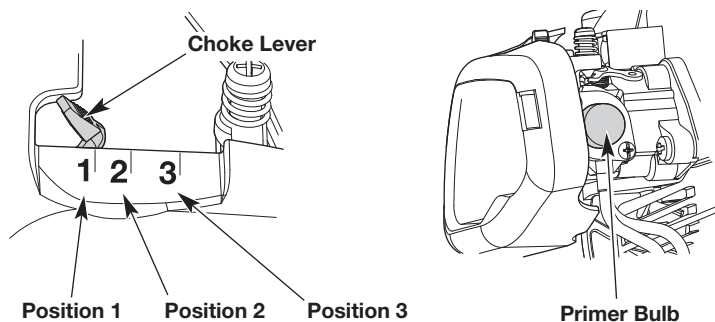

Fig. 8
3. Slowly press and release the primer bulb **10 times** (Fig. 8). If fuel cannot be seen in the primer bulb, press and release the primer bulb until fuel is visible.
4. Move the choke lever to **Position 1** (Fig. 8).
7. Continue to squeeze the throttle control. Move the choke lever to **Position 2** (Fig. 8).
10. Continue to squeeze the throttle control. Move the choke lever to **Position 3** (Fig. 8) and continue warming the engine for an additional 60 seconds. The unit may be used during this time.
IF... the engine hesitates, return the choke lever to **Position 2** (Fig. 8) and continue the warm-up.